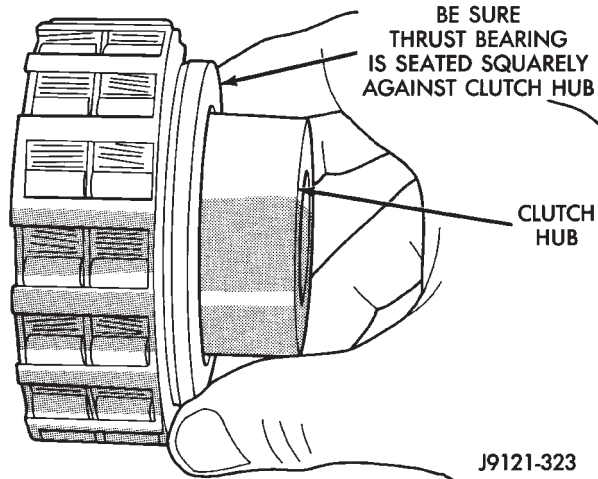

Fig. 331 Installing Overrunning Clutch Thrust Bearing
(10) Install thrust bearing on overrunning clutch hub (Fig. 331). Use petroleum jelly to hold bearing in place during installation. **Bearing fits one way only. Be sure bearing is seated squarely against hub. Reposition bearing if it does not seat squarely.**